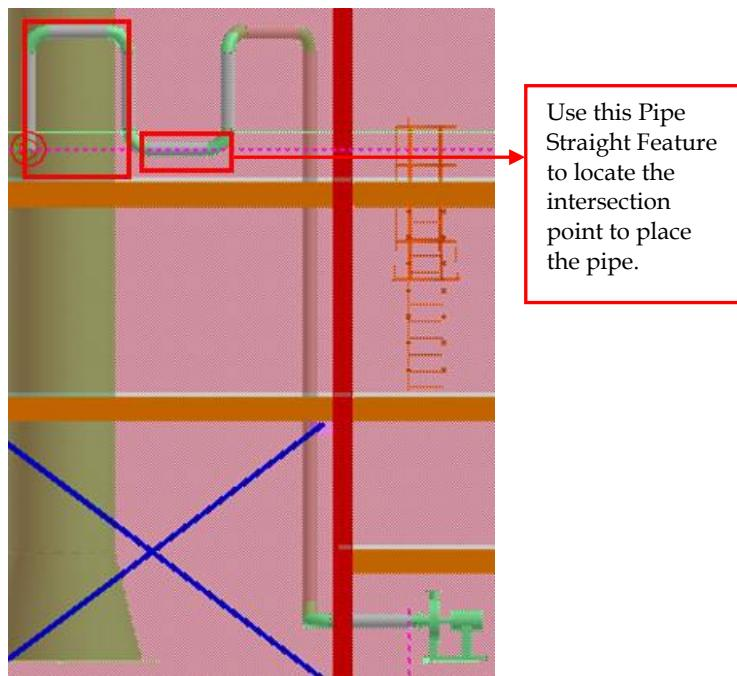

Figure 3. 26: Placed Pipes
37. Move your cursor downwards and use the **Pipe Straight Feature** highlighted in Figure 3. 25 to locate the intersection point. Click in the graphic view to place the pipe. The view of your model should resemble Figure 3. 26.
40. Move the cursor to the grid line highlighted in Figure 3. 27 to add it to the SmartSketch list. Then, move the cursor upwards to locate the projection line displayed by the system at **2 ft** offset from the grid line.